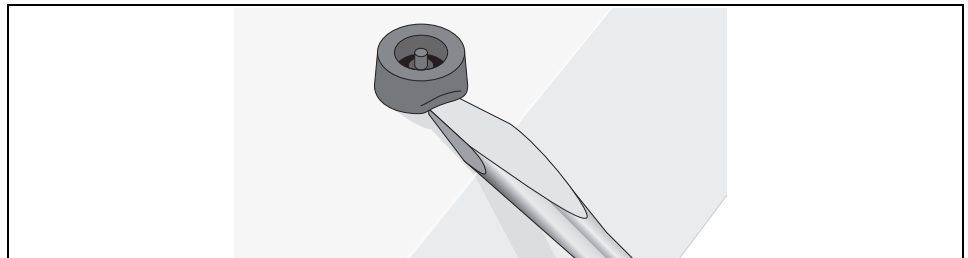

Figure 8. Removing the Feet
2. Using a flat-head screwdriver, remove the snap-on plastic feet from the bottom of the switch, as shown in Figure 8.